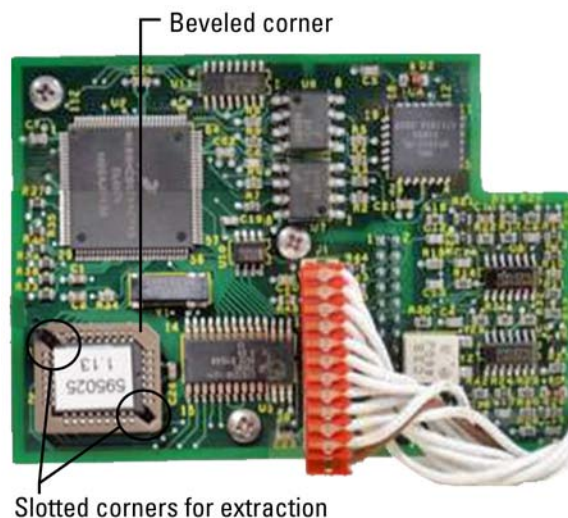

Figure E-3. Extraction notches
In critical situations, a small bladed screwdriver or curved tip tweezers can be used if an extraction tool is not available. There are slots in two corners of the PROM socket (Figure E-3). These slots can be used to extract the PROM using the extraction tool or one of the other tools. Carefully pry up on each slotted corner a little at a time, going back and forth to extract the PROM evenly out of the socket.
4. Align the replacement PROM on the socket so that the beveled corner of the PROM matches the beveled corner of the socket shown in Figure E-3. Gently push down on the PROM until it snaps into place in the socket. **If it becomes misaligned or difficult to push, stop and start over.** Once the PROM snaps into the socket, it is installed.